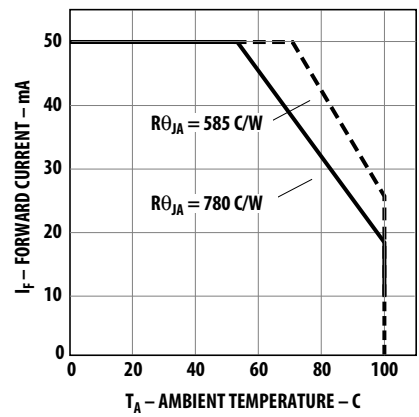

Figure 4. Maximum forward current vs. ambient temperature. Derating based on $T_{JMAX} = 130^\circ\text{C}$.
- Derate linearly as shown in Figure 4.